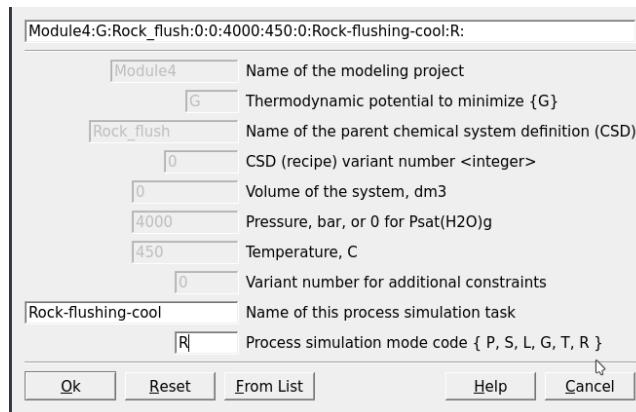

Figure 4.15: Input window the create a record for the flushing model.
- Call the new record “Rock-flushing-cool” and use the code R for the process simulation mode (Fig. 4.15).